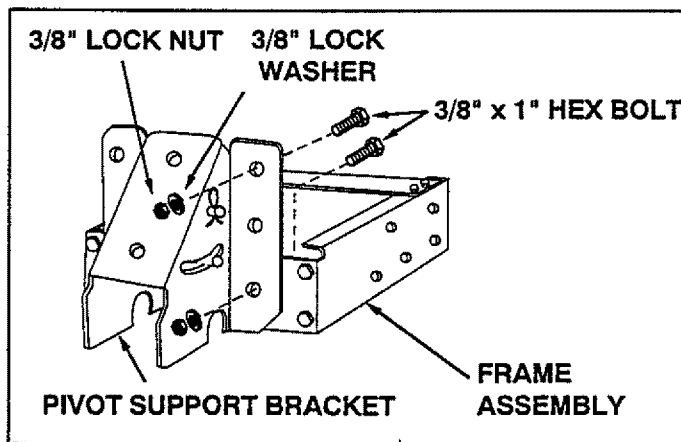

FIGURE 13
- Using the top and bottom holes on both sides of the pivot support bracket, attach the bracket to the front plate of the frame assembly using four 3/8" x 1" hex bolts, lock washers and lock nuts. **Tighten.** See figure 13.